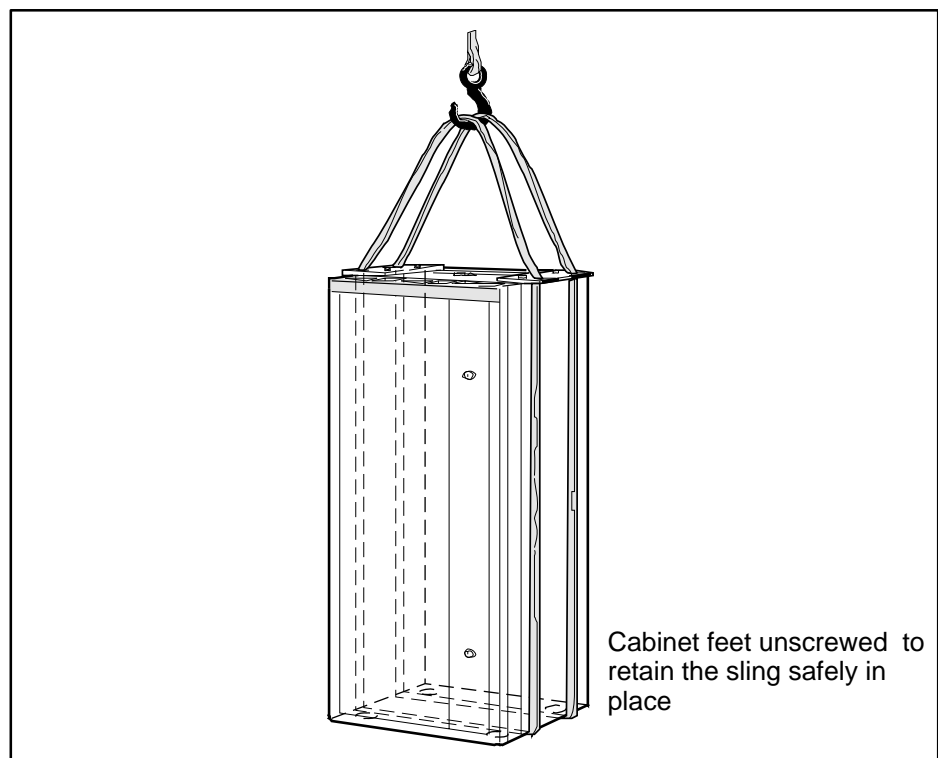

Figure 3 Lifting sling mounted
2. Mount the lifting sling as shown in figure 3.